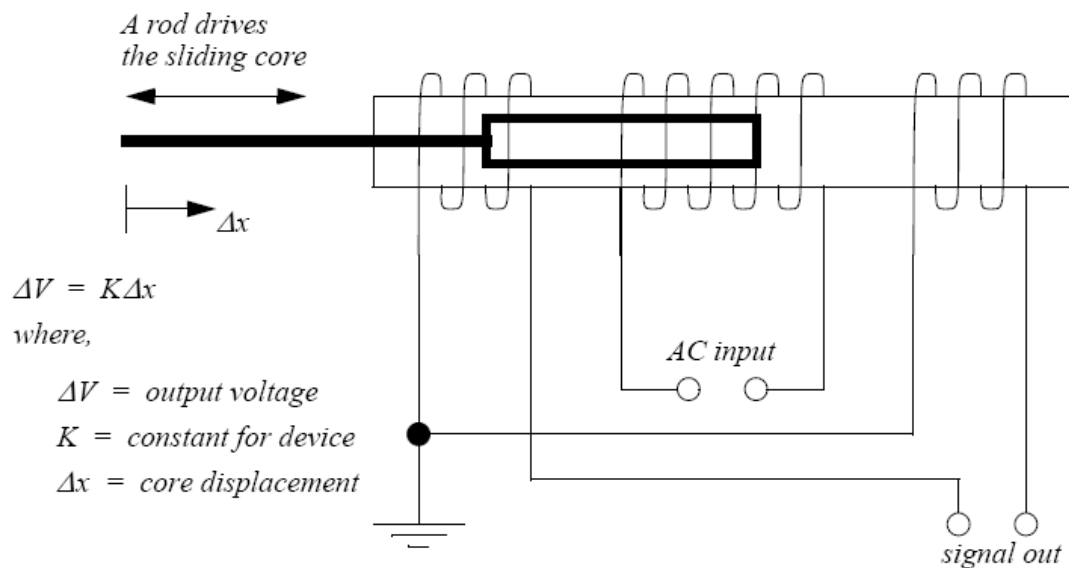

Figure 14.8 An LVDT
Linear Variable Differential Transformers (LVDTs) measure linear displacements over a limited range. The basic device is shown in Figure 14.8. It consists of outer coils with an inner moving magnetic core. High frequency alternating current (AC) is applied to the center coil. This generates a magnetic field that induces a current in the two outside coils. The core will pull the magnetic field towards it, so in the figure more current will be induced in the left hand coil. The outside coils are wound in opposite directions so that when the core is in the center the induced currents cancel, and the signal out is zero (0Vac). The magnitude of the *signal out* voltage on